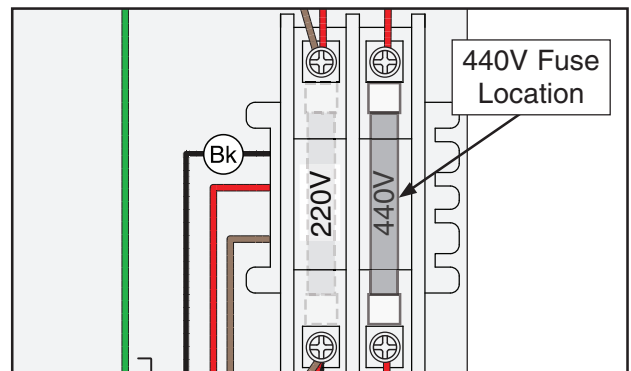

Figure 8. Fuse moved from 220V to 440V slot.
5. Remove the magnetic switch cover and move the fuse on the fuse block from the 220V slot to the 440V slot, as shown in **Figure 8**. (Additionally, refer to the photos on **Page 80** and wiring diagram on **Page 82** for further details.